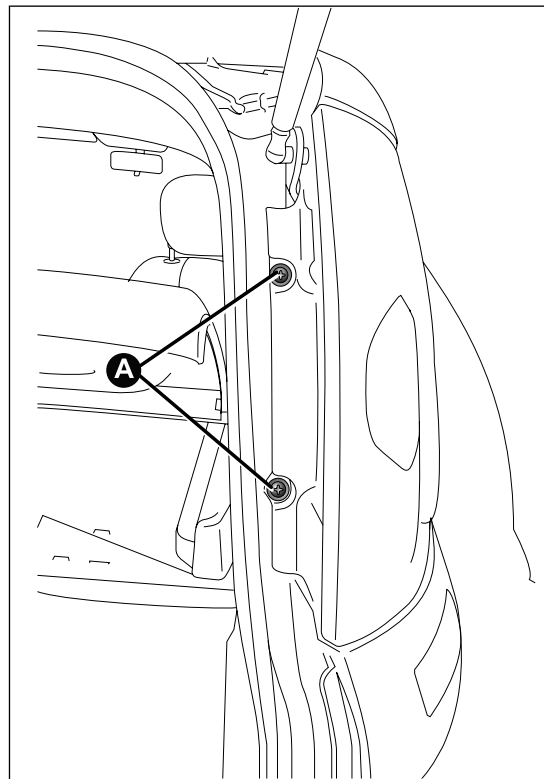

fig. 128
- ☐ slacken the two screws fig. 128 from their seats, pull gently outwards until releasing the whole headlight from the two clips (press-fitted D fig. 128) and release the connector;